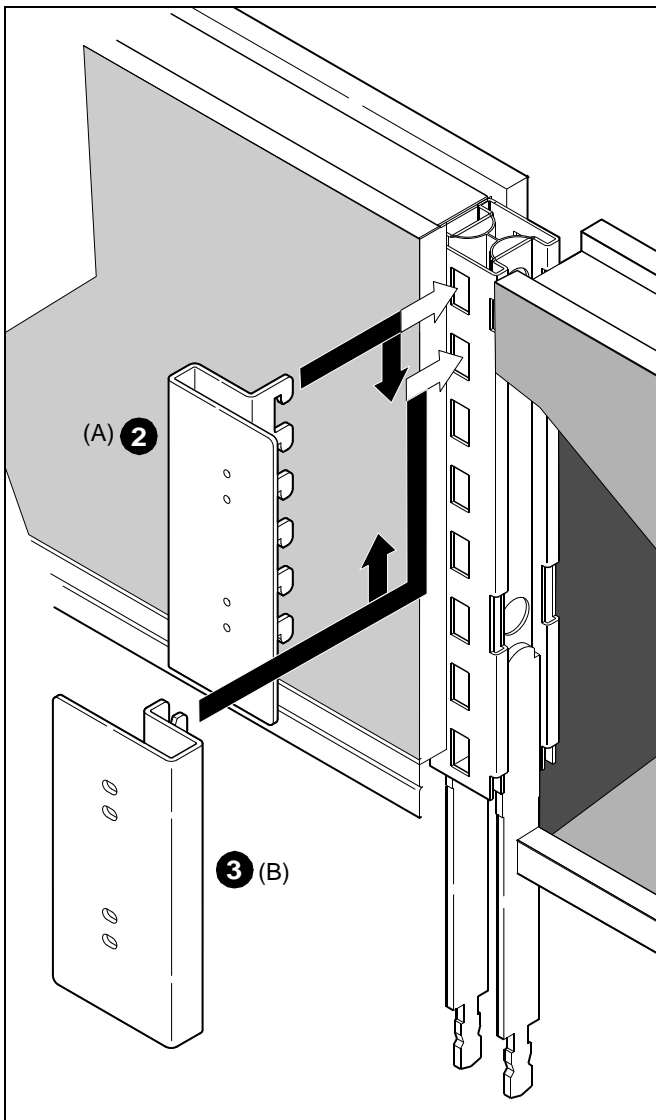

Figure 1
2. Orient *Tapped* wall bracket (Tabs facing DOWN) as shown in figure 1 below, and install six tabs on *Tapped* wall bracket into six slots in wall support.
3. Orient *Slotted* wall bracket (Tabs facing UP) as shown in figure 1 below, and install six tabs on *Slotted* wall bracket into six slots in wall support.